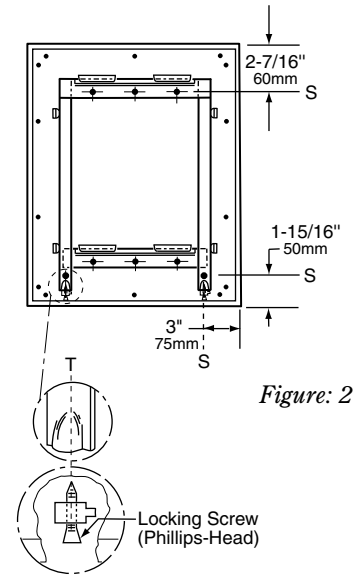

Figure: 2
**Frame** — 18-8 S, type 304, heavy-gauge stainless steel, 3/4" x 3/4" (19 x 19mm) angle with vertical-grain satin finish. One-piece, roll-formed construction forms continuous integral stiffener on all sides. Bevel design on front of angle holds frame tightly against mirror. Corners of mirror frame are heliarc welded, ground, and polished smooth. Galvanized steel back is fastened to frame with concealed screws and equipped with integral horizontal hanging brackets near the top for hanging the mirror and near the bottom to prevent the mirror from pulling away from the wall. Locking devices secure mirror to concealed wall hanger. In Screw Locking Design (see figure 2), concealed Phillips-head locking screws securely fasten mirror to wall hanger.